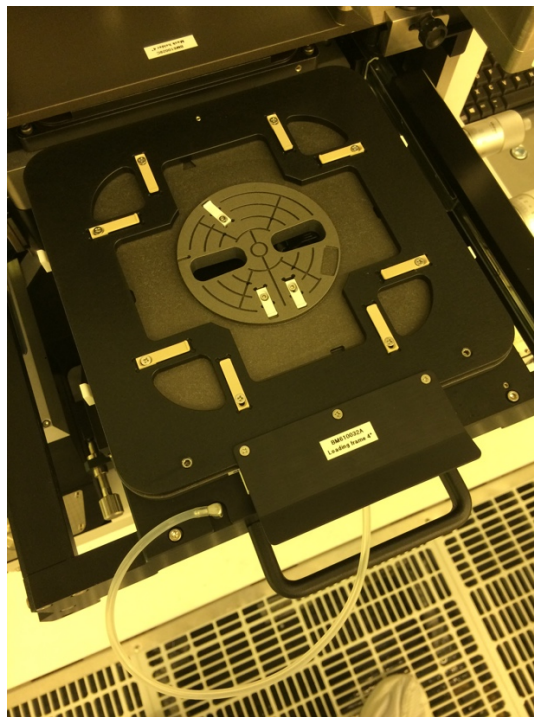

Figure 2: Position of loadframe on wafer chuck with vacuum line connected.
- vi. Insert the correct wafer chuck (pieces-size, 3 inch, or 4 inch, at least 1 inch less than the maskholder size), and connect the vacuum line. See Figure 2.
- vii. Insert loading frame (same size as maskholder). Make sure the small spikes go into the holes on the wafer chuck. See Figure 2.
- v. Insert chuck and loading frame (same size as maskholder). Make sure the small spikes go into the holes on the wafer chuck. See Figure 2.